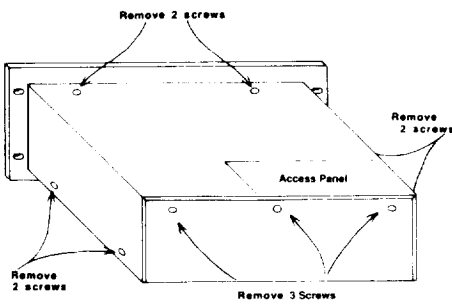

Figure 1. Top Cover Removal
1. Remove the nine screws, securing the top cover. There are two screws on each side, two screws on the top near the rear edge of the front panel, and three screws at the top edge of the rear panel. Refer to Figure 1 for details.